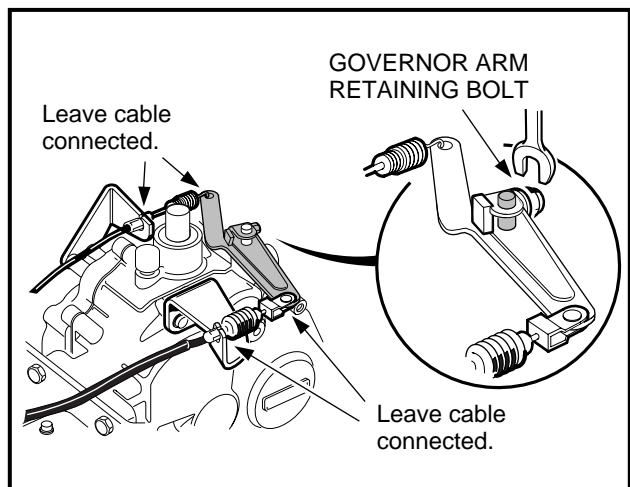

Figure 16-35 Governor Arm
16. Loosen, but do not remove, the governor arm retaining bolt. Remove the governor arm from the shaft (**Figure 16-35, Page 16-14**).